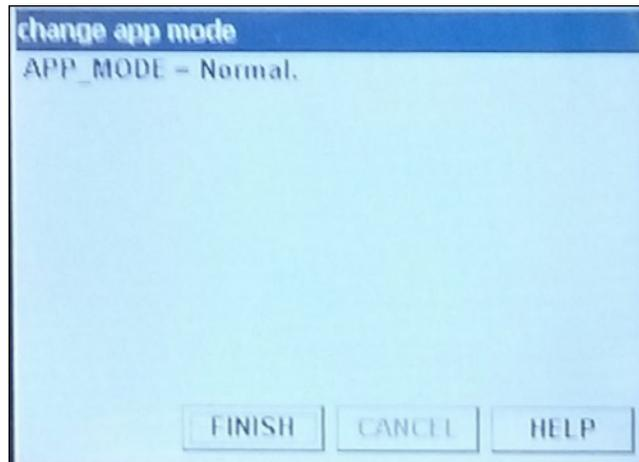

Figure 104 - App Mode Changed
7. Click **Normal**, click **Next** and Figure 104 appears.